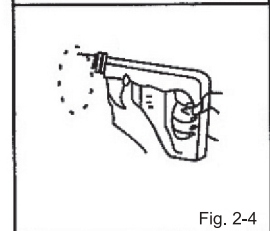

Fig. 2-4
7. Drill a hole on the wall (Fig. 2-4):